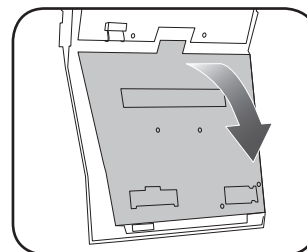

Fig. 2.5
5. Flip the climate board down to expose the ribbon cable on the back side. (Fig. 2.5)